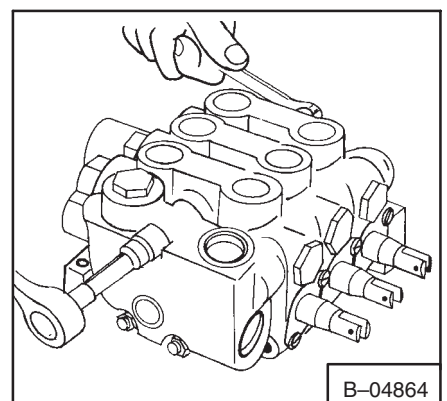

Fig. 2-10 Removing Bolts
2. Remove the bolts that hold the control valve sections together (Fig. 2-10).